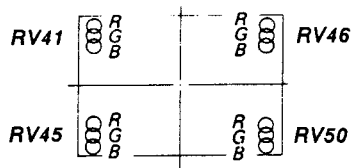

Fig. 1-23
3. Adjust RV41, RV45 and RV46, RV50 on the DB board to coincide with the R, G and B dots as shown in Fig. 1-23.